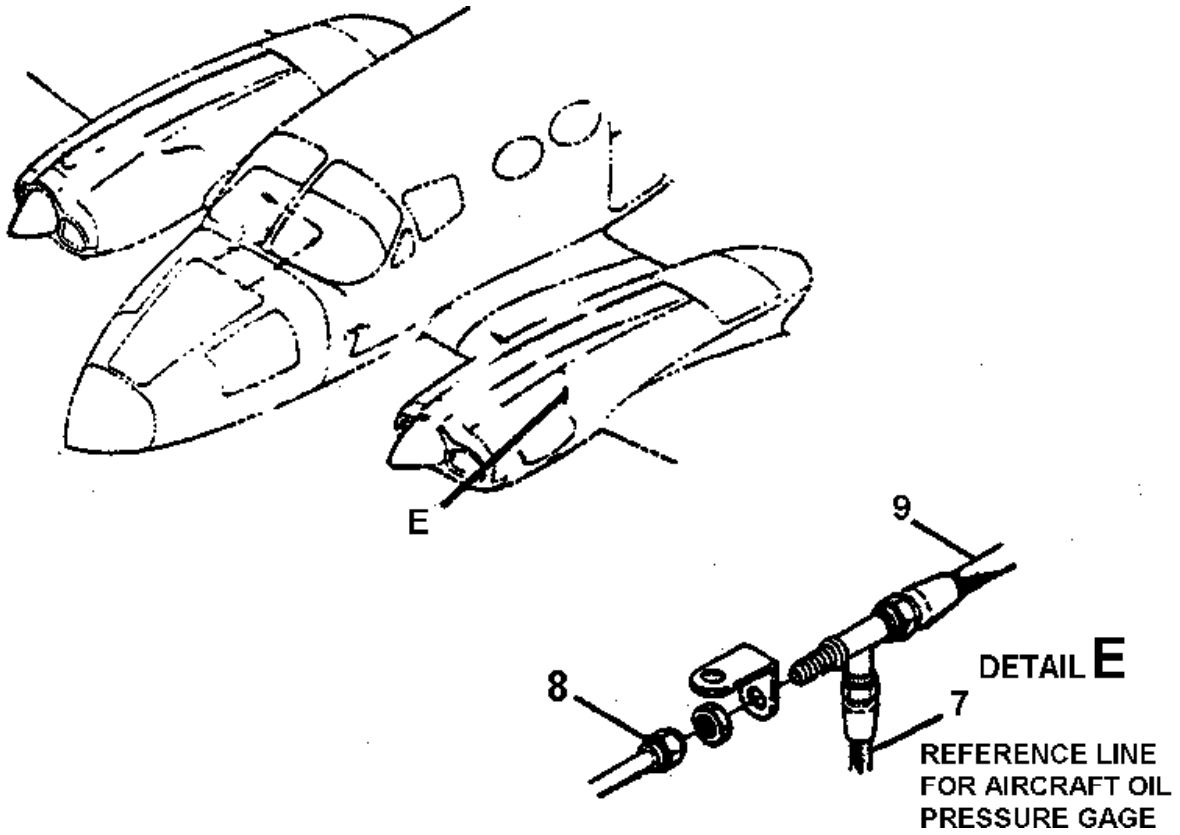

FIGURE 4
4. Disconnect the aircraft oil pressure gage reference line and connect a length of hose and a calibrated 0 - 100 P.S.I. gage to the tee fitting. See Figure 4. The aircraft oil pressure gage CANNOT be used to record this reading.